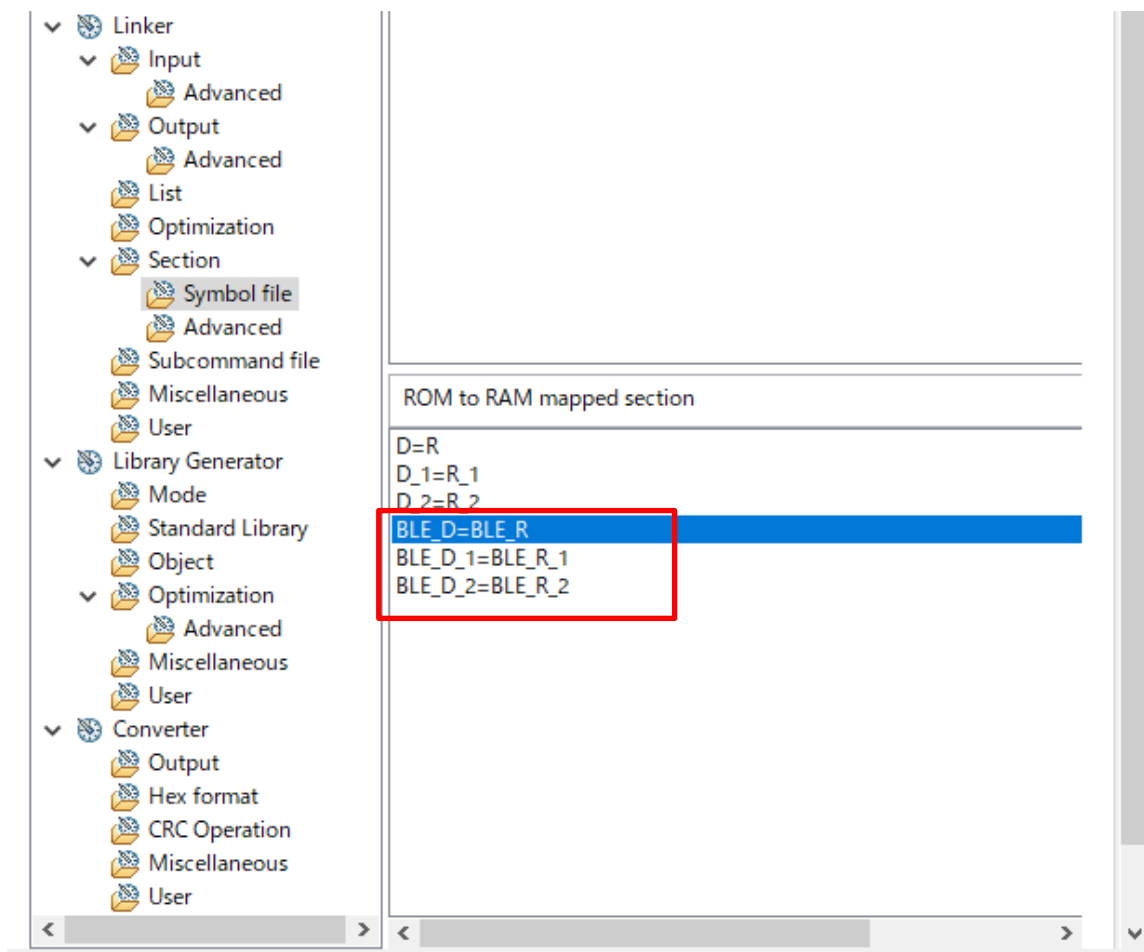

Figure 4.35 : Rom to RAM mapped section configuration
- (1) Select "Settings" → "Tool Settings" → "Linker" → "Section" → "Symbol file".
- (2) Input the following to the "ROM to RAM mapped section". (Figure 4.35)